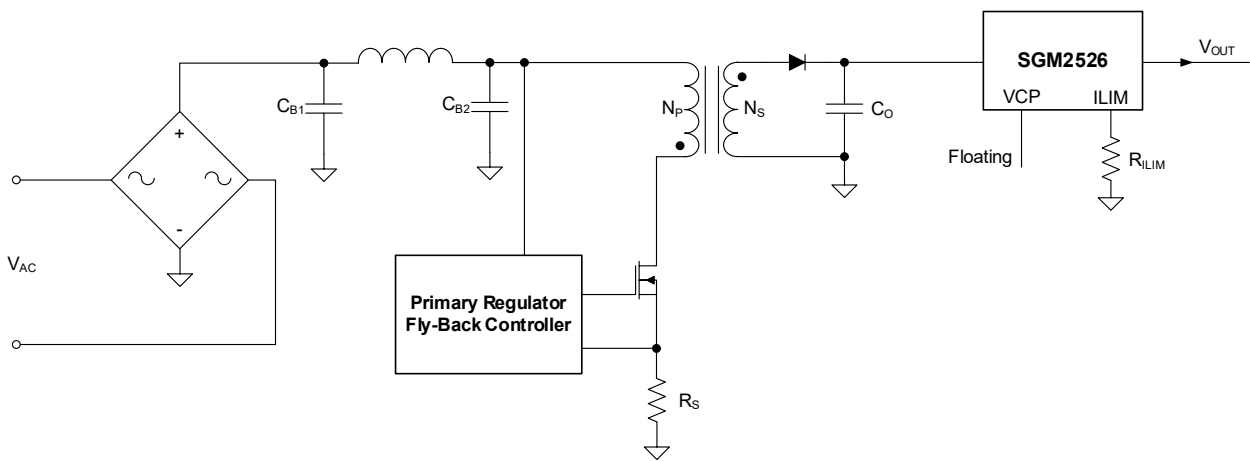
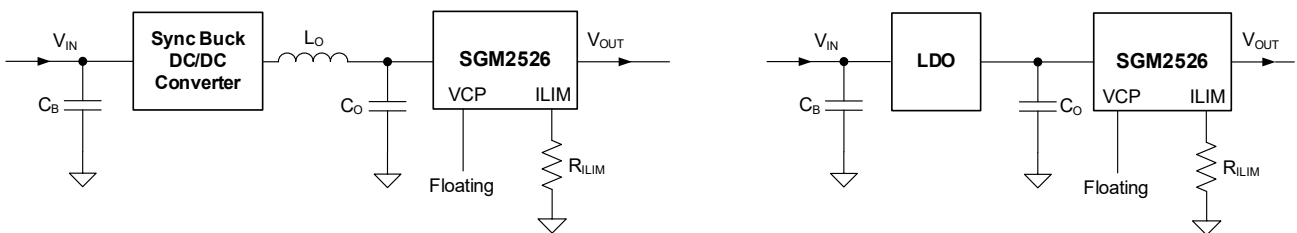
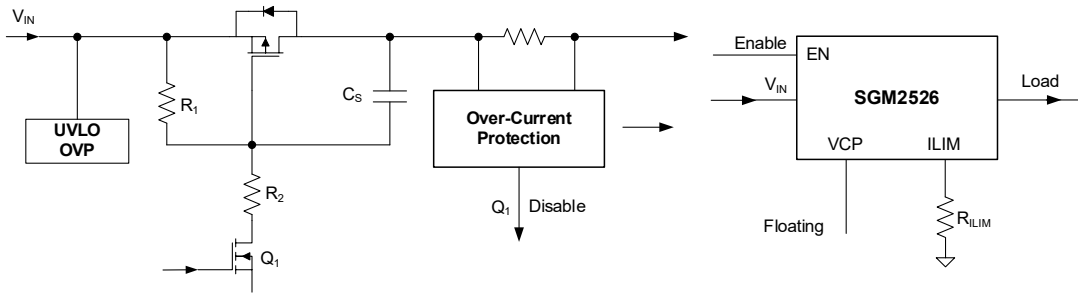

Figure 2. Current Limit and Protection for AC/DC Power Supplies
Figure 3. Precision Current Limit and Protection of Internal Rails
Figure 4. Smart Load Switch Implementation
implementation. It adds complexity to the solution and leads to a loss of sensing. The SGM2526 adopting N-MOSFET with low on-resistance is a simple and efficient solution. The typical application circuit of SGM2526 is shown in Figure 2.
The safe operation of electrical and electronic equipment in dangerous area environment has a more and more urgent requirements for intensive safety (IS). IS requires that the total energy available during equipment operation is not enough to ignite the surrounding explosive environment by means of electric sparks or heat transfer. This requires precision current limits to ensure that the set current limits are not exceeded over a wide operating temperature range and variable environmental conditions. Applications such as gas analyzers, medical devices, portal industrial equipment, etc., need to meet these importance safety standards. As a simple over-voltage and over-load protection solution, the SGM2526 is applicable to each power rail inside the system application. The typical implementation circuit of SGM2526 is shown in Figure 3.
The smart load switch is a series of MOSFETs used to switch the load (resistance or capacitance). It also provides protection in case of failure. Figure 4 shows a typical discrete implementation of load switch, which requires more components and more complex circuits
Updated Figure 1, Figure 2, Figure 3 and Figure 4	1, 8, 9, 10